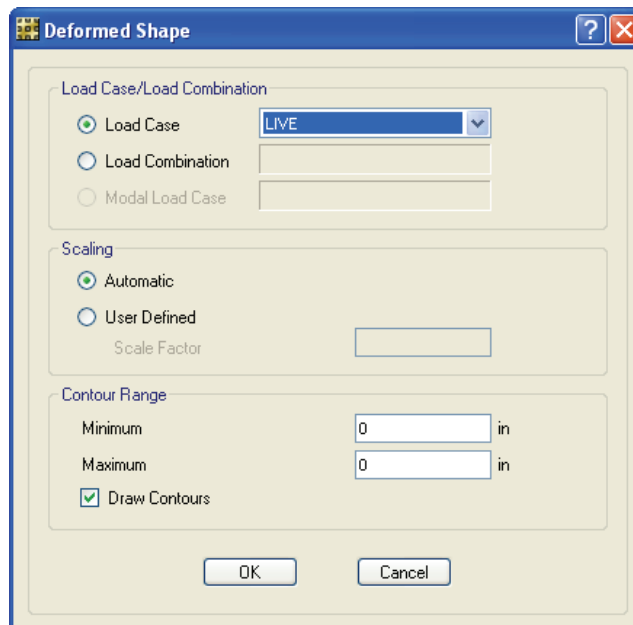

Figure 37 Deformed Shape form
- C. Click the **Display menu > Show Deformed Shape** command to access the Deformed Shape form shown in Figure 37.